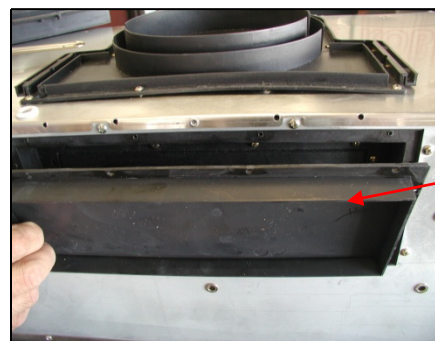

Figure 9
- Cut the vent cover (rear) opening and reverse to the other side. Refer to Figure 9. Reattach the vent cover (rear).